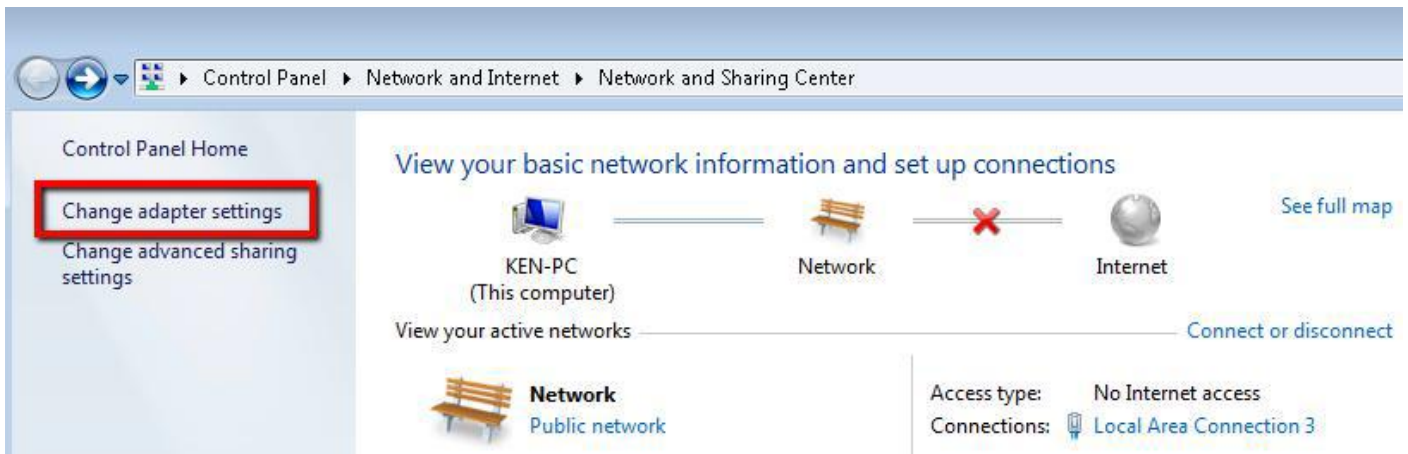

Figure 13 Adapter Setting
12. Choose “Change Adapter Settings” as below Figure 13.